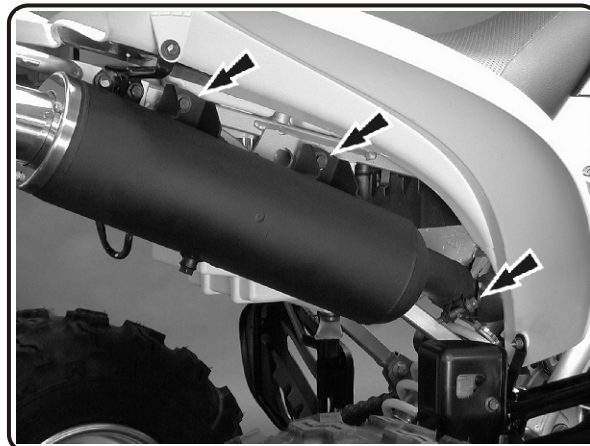

Fig. 1
- 1 Unbolt and remove stock slip-on muffler. (See Fig.1)